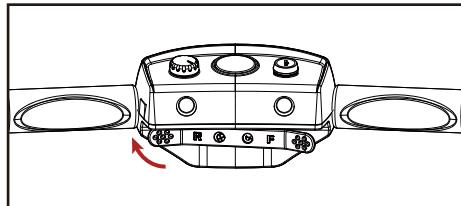

Figure 3 : Reverse Throttle Operation
- To move backward: Push the lever inward with your left thumb(see Figure 3).